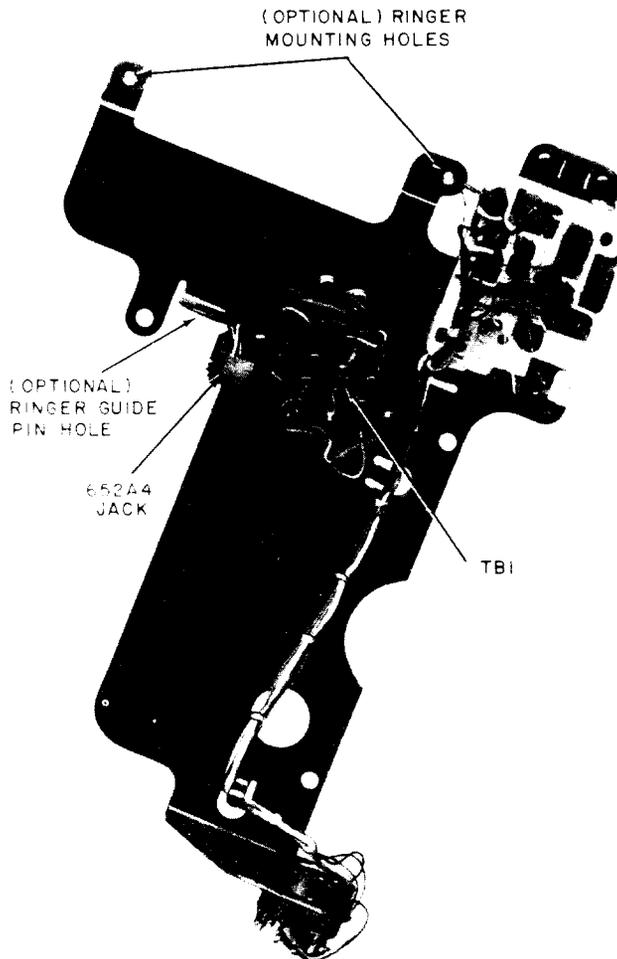
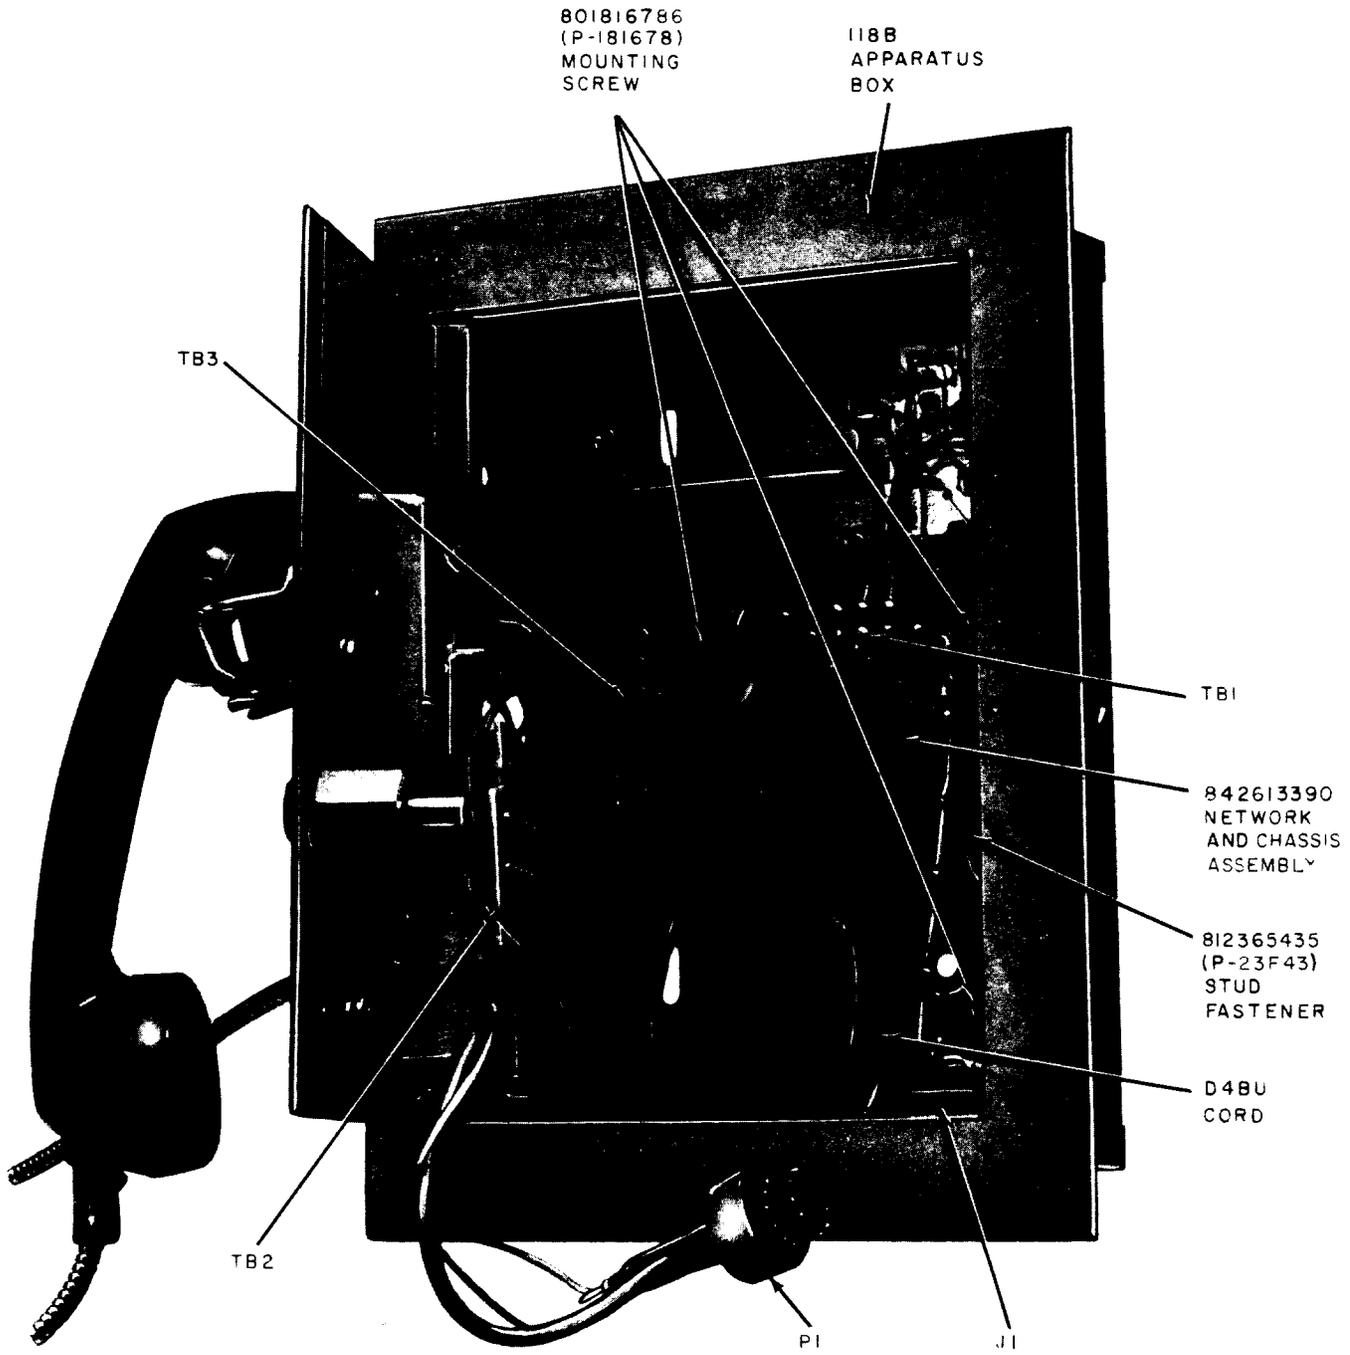

Fig. 2—842613390 Network and Chassis Assembly
Fig. 3—755AM Telephone Set Installed in 118B Apparatus Box
- (1) Install the network and chassis assembly (Fig. 2) in the apparatus box using three mounting screws. Position assembly as shown in Fig. 3.
- (2) Install steel stud fastener in 118B apparatus box (Fig. 3). Screw end of stud fastener equipped with red lock nut material into threaded standoff hole located at back right side of the apparatus box.